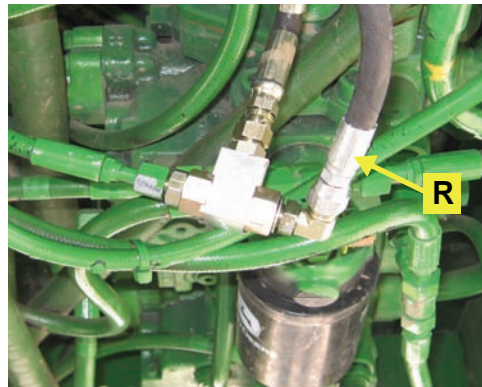

Figure 5c: Installed load sense hose
- c. Install the load sense hose (**R**) between the open end of the load sense shuttle and the LS port of the Automated Steering Block. Route the hose with the pressure and tank hoses. (Figure 5c and 5d)